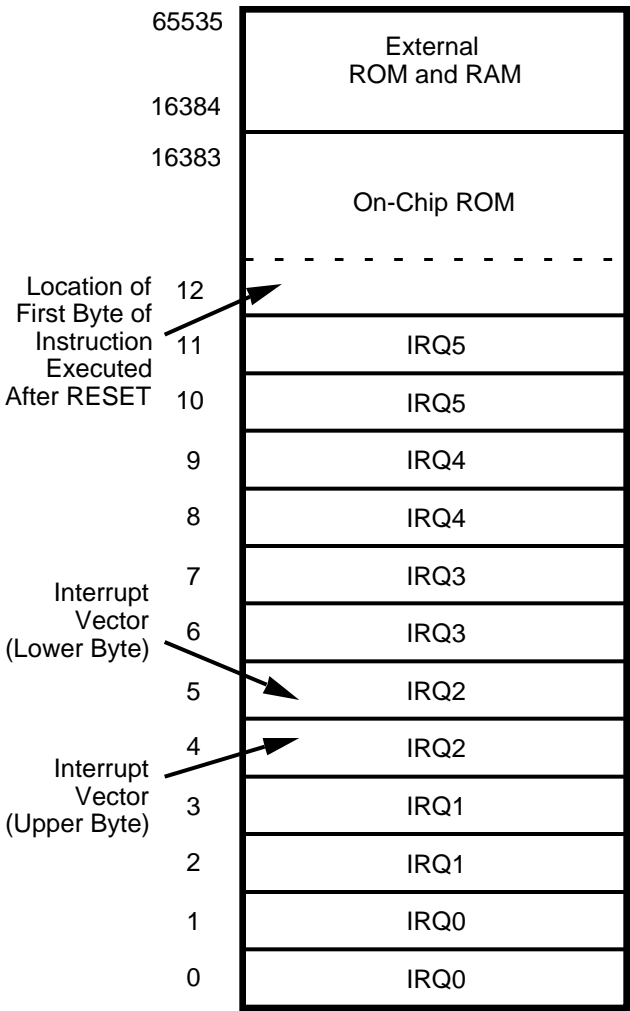

Figure 19. Program Memory Configuration
**Program Memory.** The Z86C61/62 can address up to 48 KB of external program memory (Figure 19). The first 12 bytes of program memory are reserved for the interrupt vectors. These locations contain six 16-bit vectors that correspond to the six available interrupts. For ROM mode, byte 13 to byte 16383 consists of on-chip ROM. At addresses 16384 and greater, the Z86C61/62 executes external program memory fetches. The Z86C96, and the Z86C61/62 in ROMless mode, can address up to 64 KB of external program memory. Program execution begins at external location 000CH after a reset.